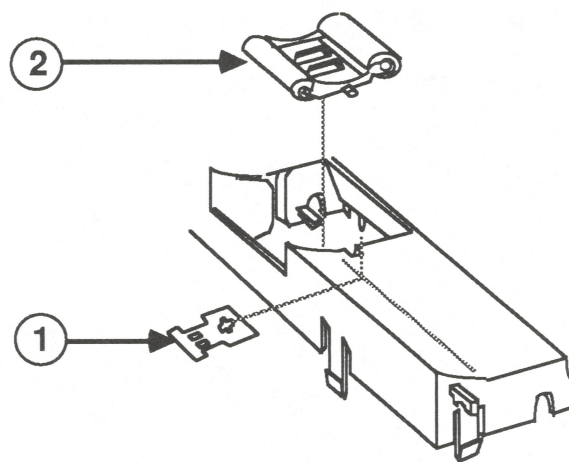

FIGURE 46
1. Position the two pinch-roller spring plates (Figure 46, #2) on the paper guide.